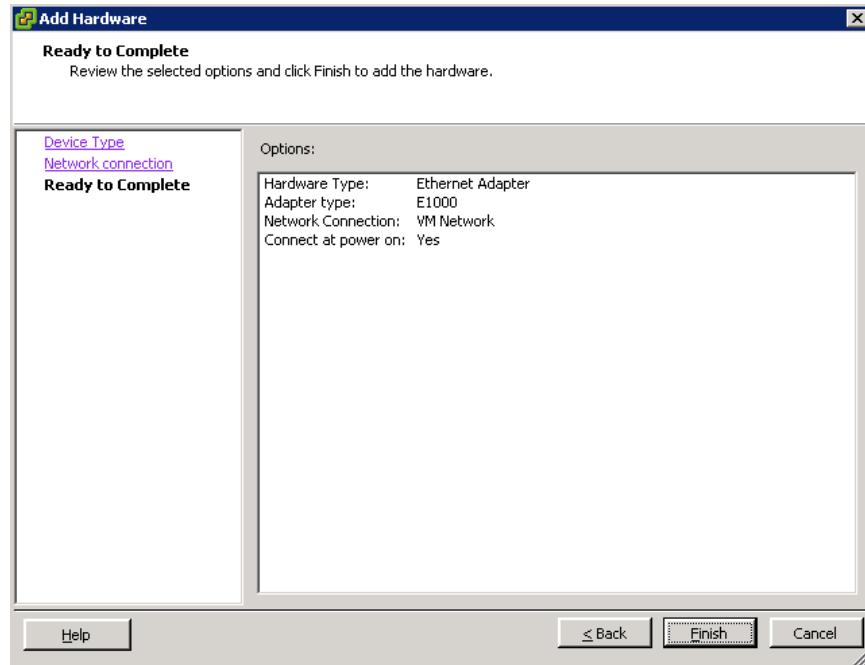

Figure 5-35. Add Hardware—Ready to Complete
9. Review the adapter settings, and then click **Finish** to complete the adapter configuration (Figure 5-35).